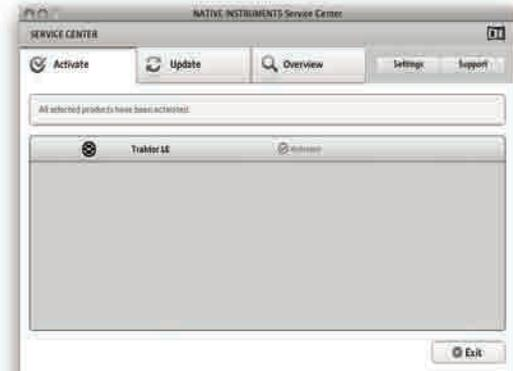

Figure 5.45
- All selected products have been activated. Click **Exit**. (Figure 5.45)